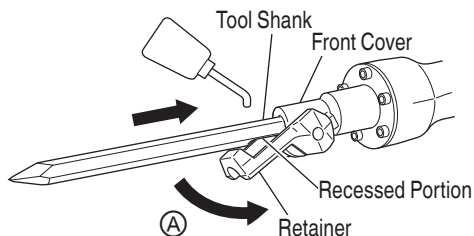

Fig. 5
- (1) Clean, then smear the accessory shank portion with grease or machine oil.
- (2) Move the retainer to position ㊤. Align the accessory shank portion so that its recessed portion is under clamp and seat the accessory such as a bull point, a cutter, etc., in the hexagonal hole in the front cover (See Fig. 5).